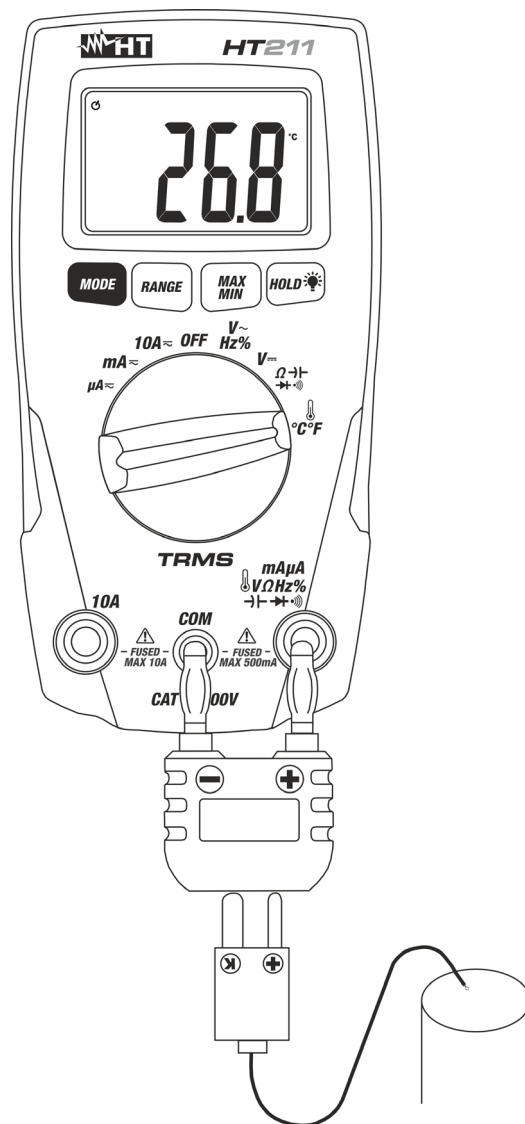

Fig. 8: Using the instrument for Temperature measurement
3. Insert the standard adapter accessory into $\text{mA}\mu\text{A}\text{V}\Omega\text{Hz}\% \rightarrow \text{---} \rightarrow \text{---}$ jack (+ polarity), and **COM** jack (- polarity) (see Fig. 8)